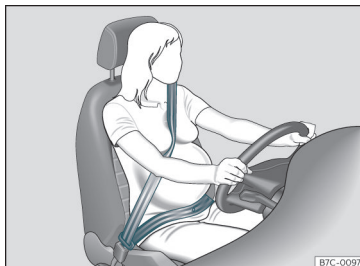

Fig. 12 Position of seat belt during pregnancy.
In the case of **pregnant women**, the seat belt must lie evenly across the chest and as low as possible over the pelvis, never across the stomach and must be worn properly at all times during the pregnancy»» **Fig. 12**.
- For pregnant women, the lap part of the seat belt must lie as low as possible over the pelvis and always lie flat, "surrounding" the stomach»» **Fig. 12**.